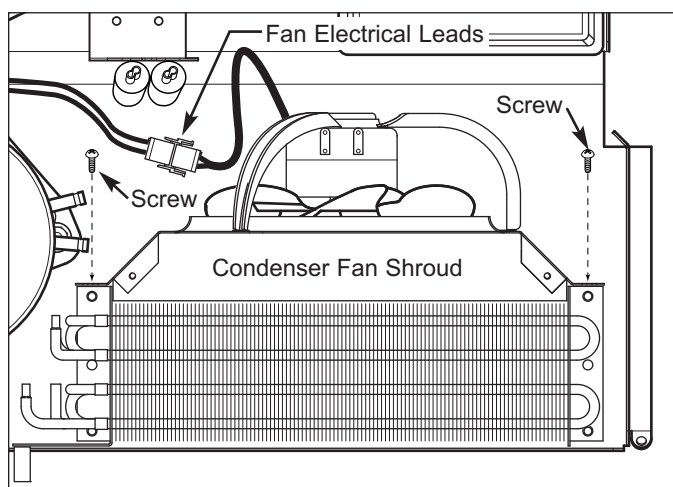

Figure 7-42. Condenser Fan Shroud Removal
1. Disconnect condenser fan motor electrical leads. (See Figure 7-42)
2. Extract screws at the top of the fan shroud and lift the shroud with motor, up off of the pegs located on unit tray. (See Figure 7-42)